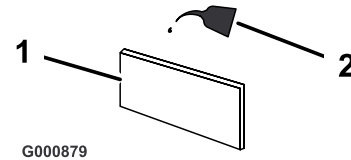

Figure 33
- C. Soak the element in new engine oil. (Figure 33). Squeeze the element to remove excess oil.